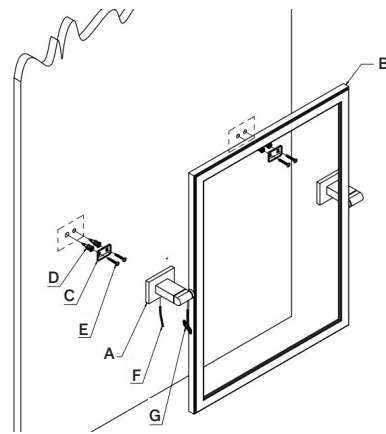

FIGURE 2
1. Connect the mirror frame (B) to both mounting posts (A) using T hex wrench (G).
4. Hold wall brackets (C) in the center of the outlines of the posts as shown below (Figure 2).
5. Mark the locations of anchors (D) on the wall. Remove wall brackets (C) from wall. Position anchors (D) and gently hammer each anchor into the wall until the cap prongs are embedded and the cap is snug against the wall surface. Turn the screw clockwise, pressing firmly to prevent anchor (D) from rotating. Turn the screw counterclockwise to remove it, anchor (D) will remain embedded in the wall.
6. Place wall brackets (C) over anchors (D) and re-insert anchor screws through wall brackets (C) and tighten until they are flush with the wall. Place mounting posts (A) over wall brackets (C) and tighten screws (E).
7. If necessary, loosen wall mounting screws (E) and adjust wall brackets (C) to obtain proper horizontal screws and then reattach mounting posts (A) using L hex wrench (F).
8. Use T hex wrench (G) to tighten both the mirror and the knuckles of mounting posts (A).